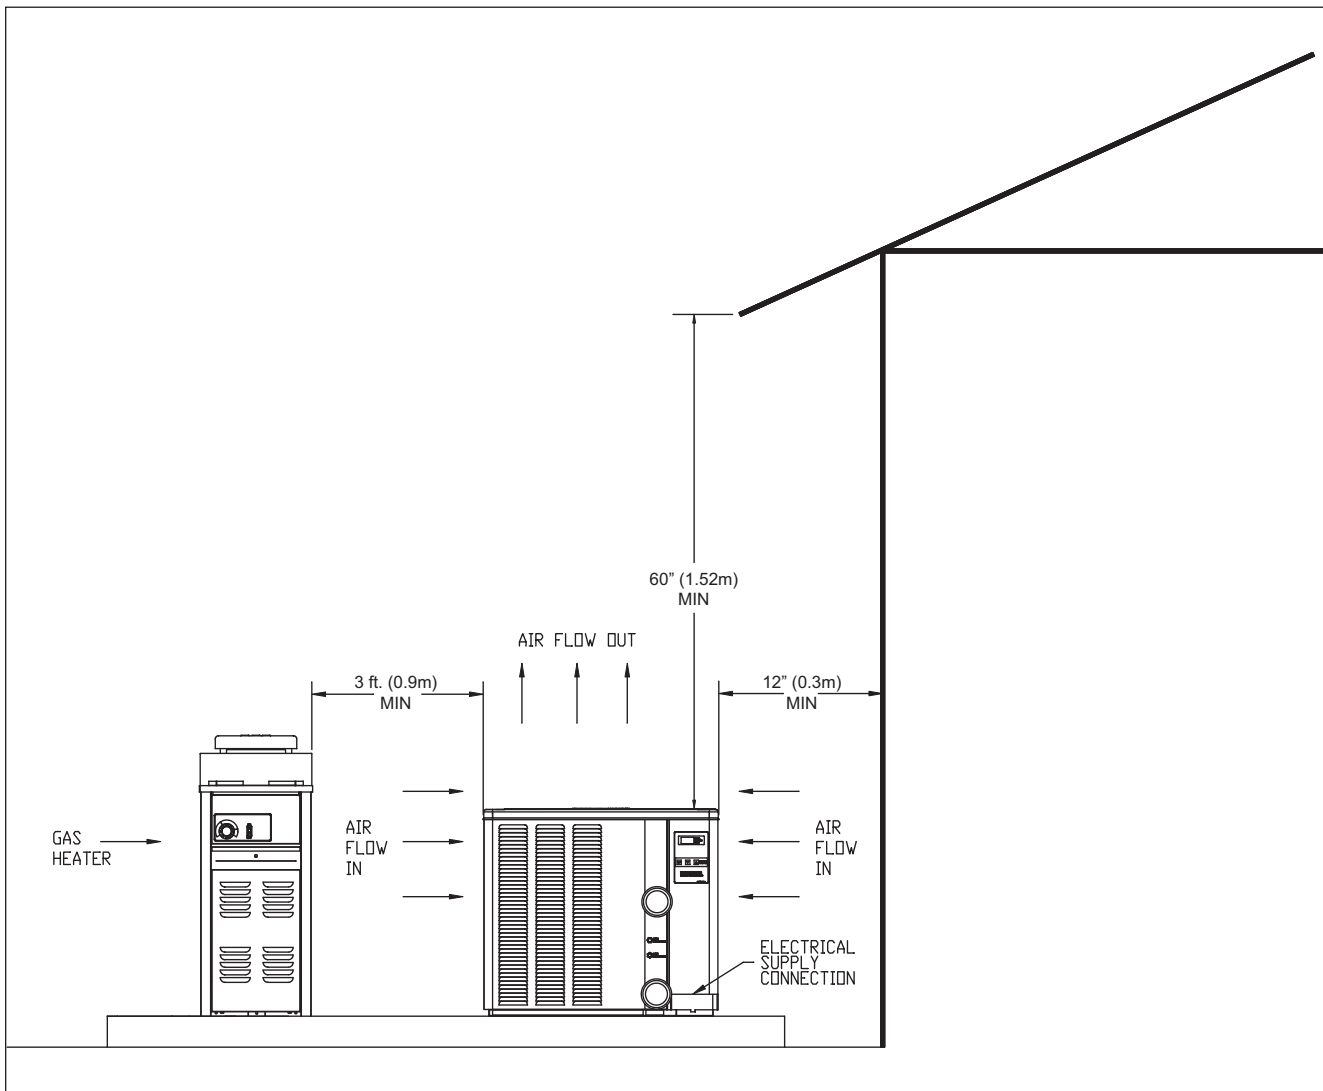

Fig. 1: Installation Clearances
Changes to: Fig. 1 on page 6, Fig. 8 on page 13, Wiring Diagram on page 18
- This unit features an 'up-flow' discharge for quiet operation. Air is pulled up through the evaporator coil and discharged through the top grill. Allow at least 5 ft (1.5 m) clearance above the unit for unrestricted air discharge. **DO NOT** install the unit under a porch or deck. Refer to Fig. 1.